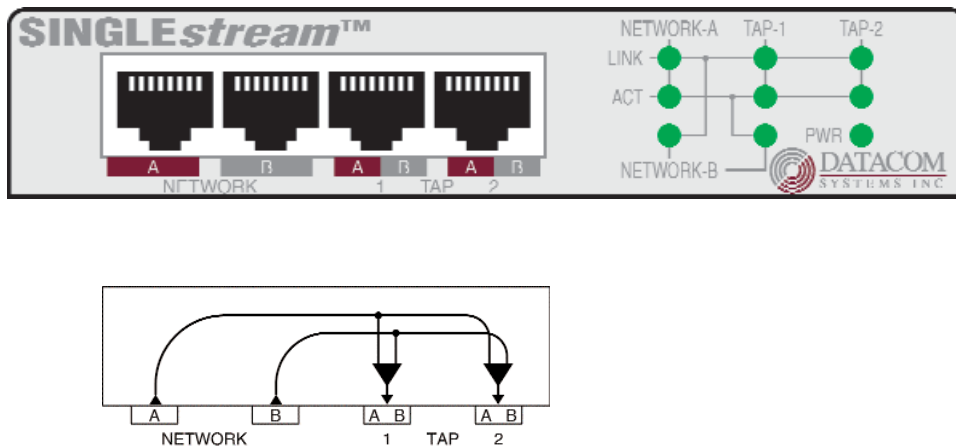

Figure 1 - SS-200 Front Panel and functional diagram
**SS-200 Hardware Description** — Figure 1 illustrates the SS-200 series SPAN Aggregator/Regenerator front panel. This is the location for all cable connections and status LEDs.